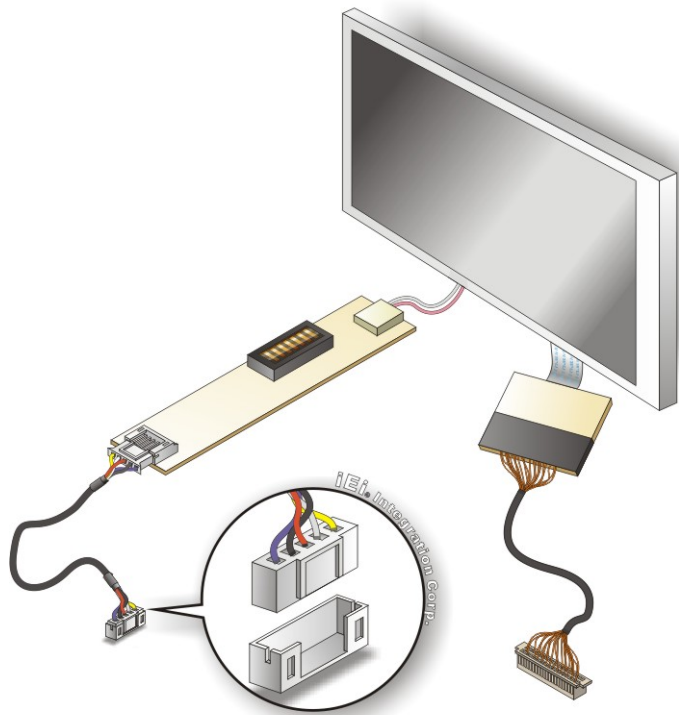

Figure 4-23: Backlight Inverter Connection
- Step 4:** **Connect backlight connector.** Connect the backlight connector to the driver TFT LCD PCB as shown in **Figure 4-23**. When inserting the cable connector, make sure the pins are properly aligned.